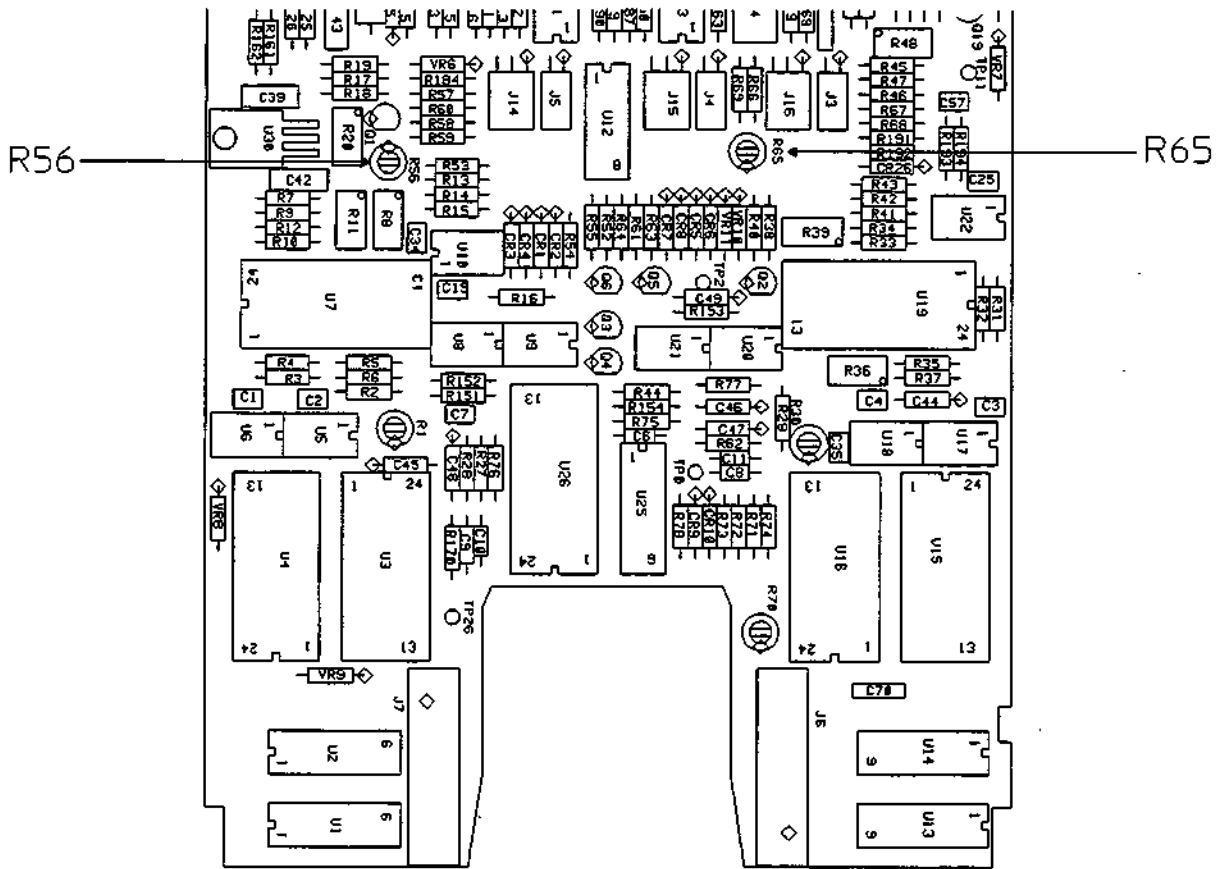

Figure 5-21. A81 Adjustment Locations
2. Refer to figure 5-21. Adjust A81R56 so that the horizontal lines of the four small boxes in the test pattern are of equal intensity.